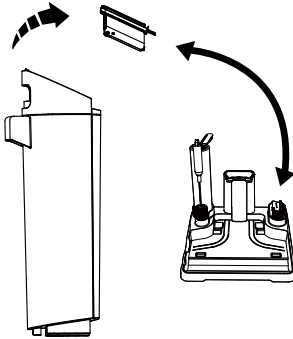

Fig.1
- Take out the used hypa and replace it with a dry hypa to ensure good performance (every time you use it).(Fig.1)